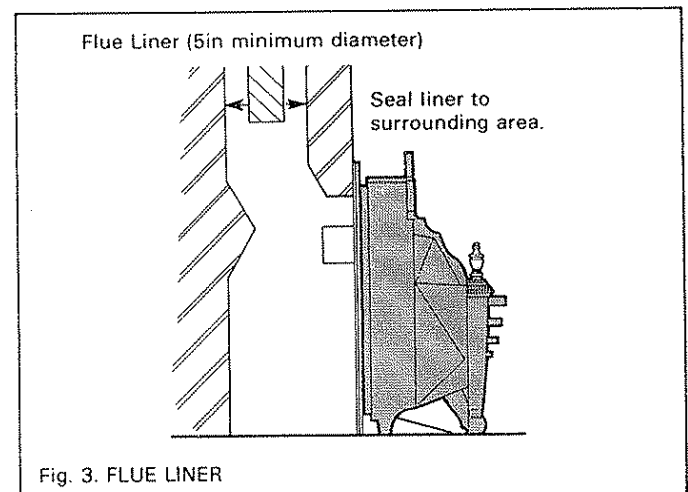

Fig. 3. FLUE LINER
- (i) If a flue liner is used, it must have a minimum size of 5in diameter. The liner must be sealed above the fireplace opening to the surrounding area (Fig. 3) and to the top of the chimney with an approved terminal being used.